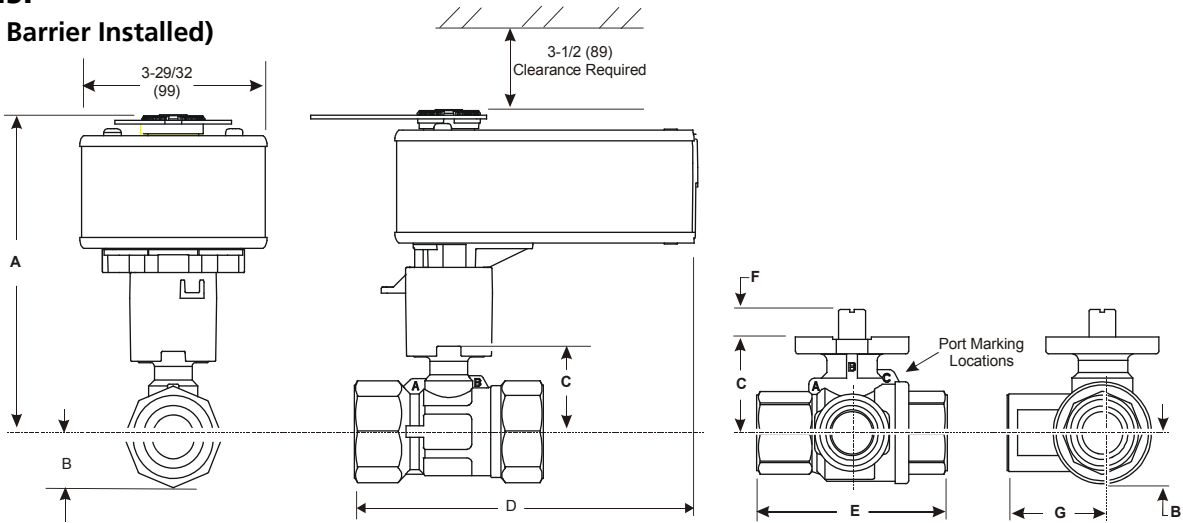

Figure 3: Spring Return VA(M)S-70 Series Ball Valves (With Optional Thermal Barrier) - Dimensions, in. (mm)
1. Port A must always be connected the coil (Figure 3).